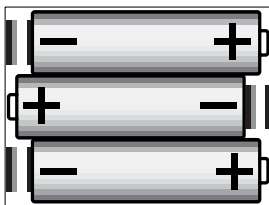

Figure 5
3. **Reinstall the new batteries, being careful to seat the red battery warning flags in the recess of the battery well.** Also, note the polarity illustration in the bottom of the battery compartment (see figure 5).